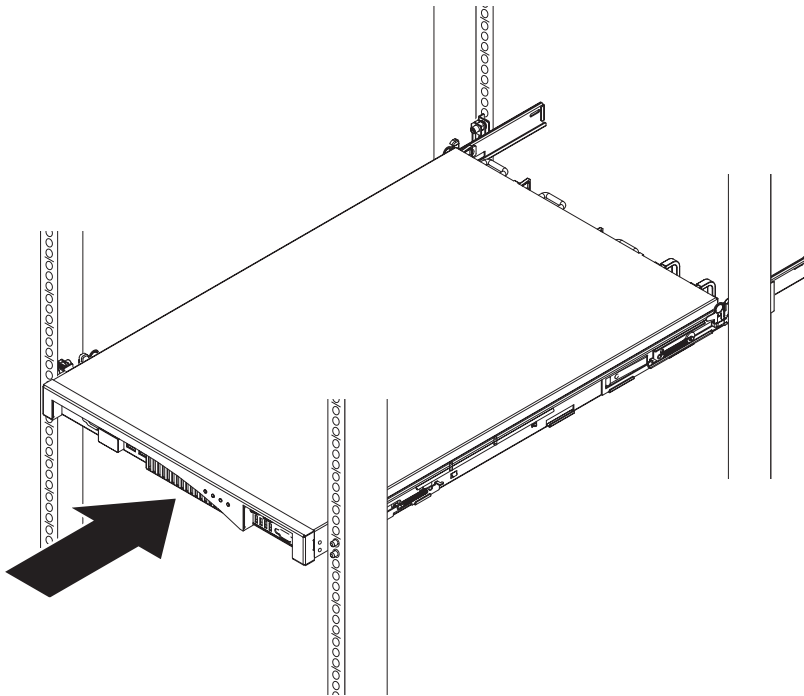

Figure 7. Sliding the appliance into the rack
1. Slide the appliance into the rack. From the front of the rack, slide the appliance onto the mounting rails, as shown in Figure 7 on page 18. Do not slide the appliance all the way in until it locks into place.